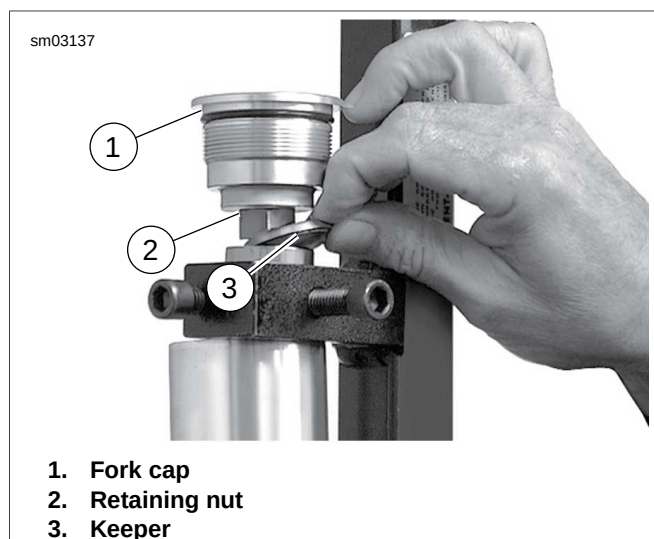

Figure 2-170. Remove Keeper
4. See Figure 2-170. Remove keeper and loosen retaining nut, and fork cap from cartridge assembly.